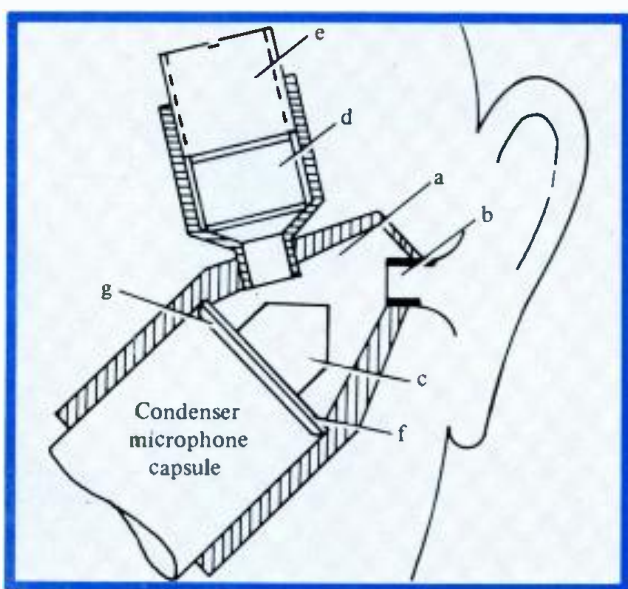
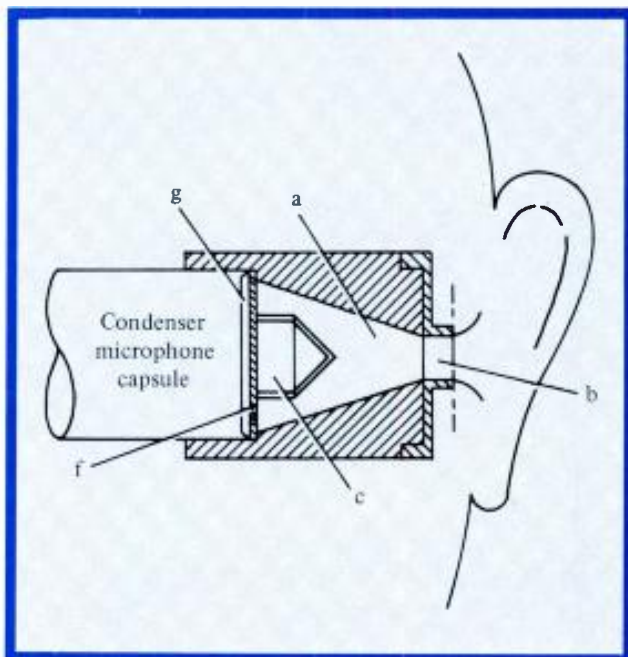

Figure 3. The IRT prototype: A passive filter was required in order to achieve diffuse field equalization.
Figure 5. The new microphone arrangement: The KU 81 is "mechanically" diffuse field equalized by virtue of the arrangement of the sound receiving components.
The acoustic equalization was achieved by rebuilding the coupler as shown in FIGURE 5. First of all, the microphone capsule, the coupler, and the ear canal were axially arranged. That not only makes the insertion of the ear canal tube easier, but removes the "dead space" in the upper conical protrusion which, in the prototype version, was used principally to damp the frequency partials above 10 kHz (see FIGURE 3).
In the second step the inside cone, which is mounted on the perforated disk, was equipped with a cavity and a drilled hole such that a Helmholtz resonator was created for $F=1.5$ kHz. This replaces the resonator (D from FIGURE 3) mounted at the side and does away with part of the frequency response boosts created by the air mass in the coupler (A), which oscillates through the ear canal (B).